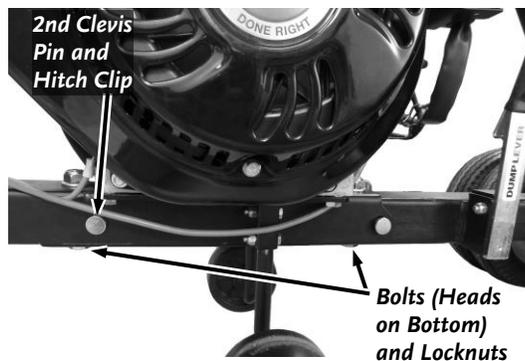

Figure 20
4. Insert the 2nd 1/2" X 3.5" Clevis Pin and Hitch Clip into the front holes of the Engine Unit and Cart Frame (Figure 20).